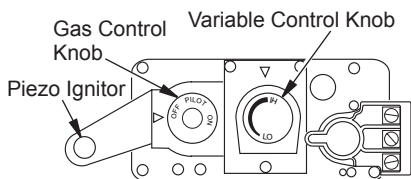

Figure 44 - Control Valve
- Turn gas control knob counterclockwise ↶ to PILOT (see Figure 44).
- Push in gas control knob all the way and hold. Immediately light pilot by repeatedly pressing piezo spark ignitor until a flame appears. Continue to hold for about one (1) minute after the pilot is lit. Release gas control knob and it will pop back. Pilot should remain lit. If it goes out, repeat steps 5 through 8.